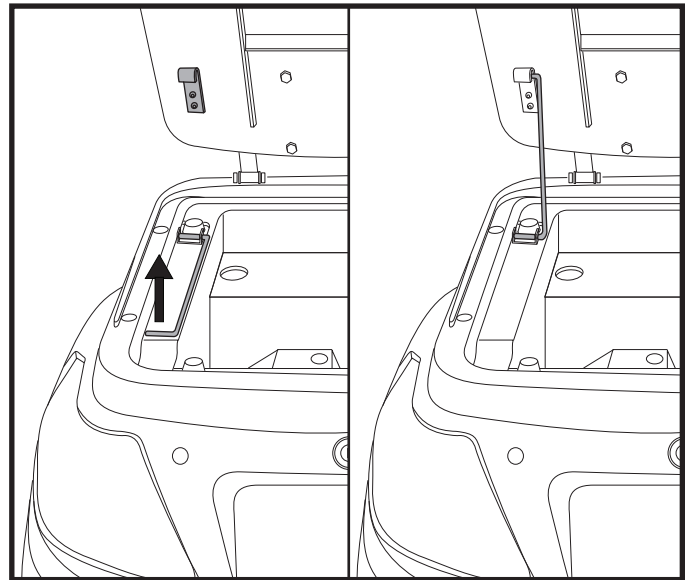

Figure 6. Seat Support Rod
4. Once the seat is flipped forward, engage the seat support rod on the left side to secure the seat in place. **See figure 6.**